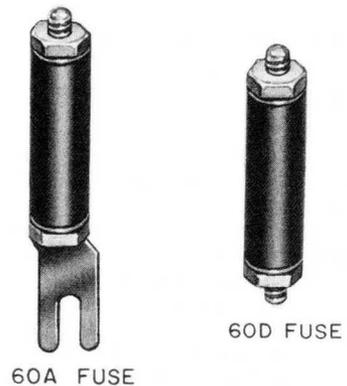
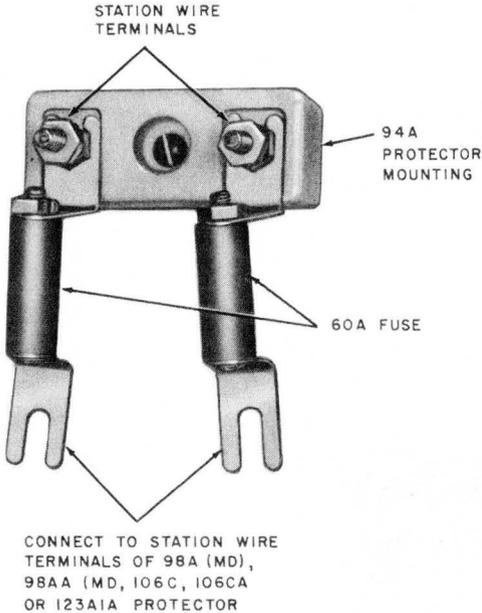

Fig. 79—60A and 60D Fuses
Fig. 80—60A Fuses Connected to 94A Protector Mounting
10.04 The 60A and 60D fuses (Fig. 79) are rated 0.350 ampere and differ only in arrangement for mounting. The 60A fuse has a spade terminal and is used with the 94A protector mounting (Fig. 80). The 60D fuse is mounted in a 14A fuse holder (Fig. 81) or 1094A protector (Fig. 82), or 191A1-20 protector (Fig. 83).